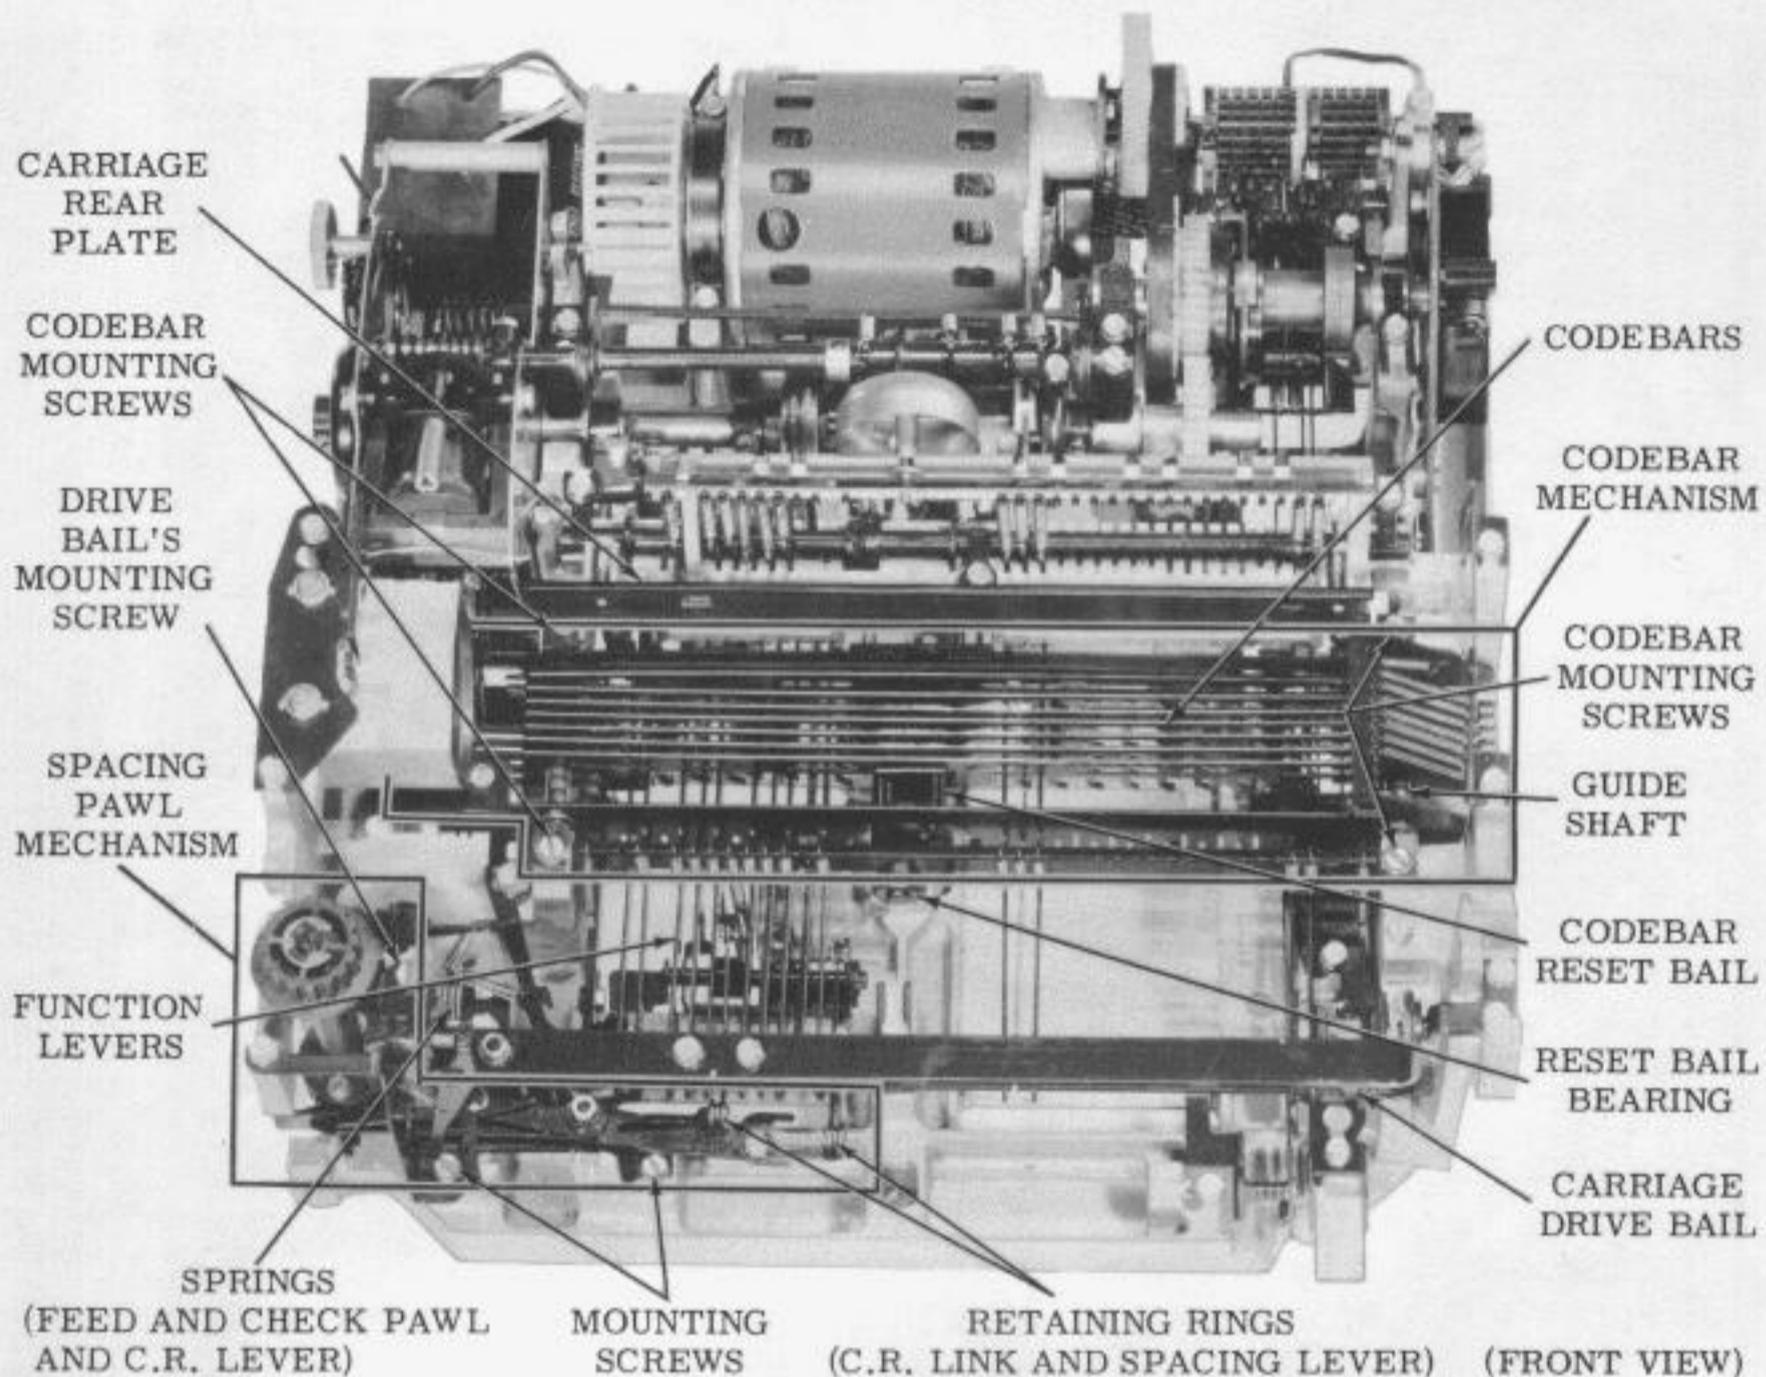

Figure 5 — Typing Unit (Carriage and Platen Removed)
- Note: Reference Figures 5 and 6.
- (1) Loosen four TP180798 mounting screws, remove four TP180925 clamps and lift codebar mechanism from frame.
- (2) To replace codebar mechanism, reverse procedure used to remove it and observe the following precautions:
Note: Reference Figures 5 and 6.
Note: Reference Figure 5.